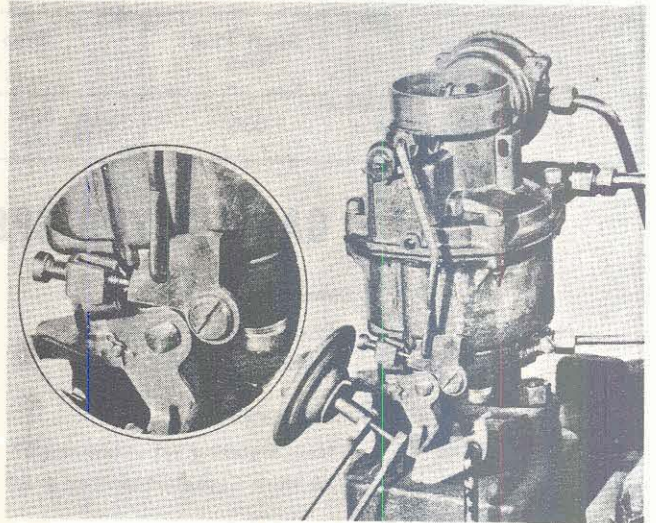

FIGURE 5
1. Install carburetor and throttle return check assembly on engine manifold (Figure 5). Connect the carburetor controls, gasoline, and vacuum spark control lines. Be certain that accelerator pull back spring No. 3695705 is used.
2. Check the alignment of the throttle return check adjusting screw with the contact arm on the throttle lever (Figure 5). It may be necessary to bend the throttle return bracket or throttle lever contact arm to center the adjusting screw on the radius of the contact arm.
5. Shut off engine. With the choke valve in the closed position, locate the throttle stop screw so that it rests on the highest step of the fast idle cam (Figure 5).